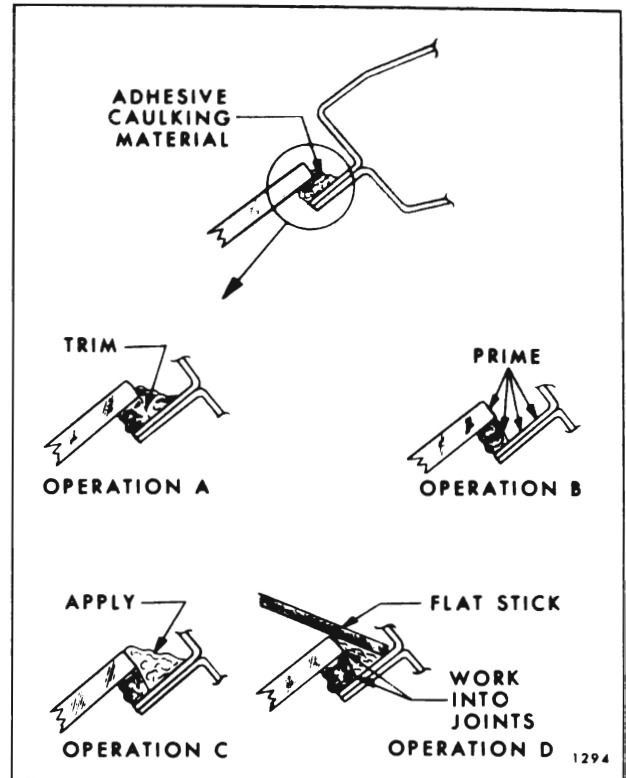

Fig. 4-4—Adhesive Glass Waterleak Correction
4. Using a sharp knife, trim off uneven edge of adhesive caulking material (see Operation "A" Fig. 4-4) at leak point and 3 to 4 inches on both sides of leak point or beyond limits of leak area.
5. Using a small brush, apply adhesive caulking material primer over trimmed edge of adhesive caulking material and over adjacent painted surface (see Operation "B" Fig. 4-4).
6. Apply adhesive caulking material, as shown in Operation "C" (Fig. 4-4), at leak point and 3 to 4 inches on both sides of leak point or beyond limits of leak area.
7. Immediately after performing step 6, use flat stick or other suitable flat-bladed tool to work adhesive caulking material well into leak point and into joint of original material and body to effect a watertight seal along entire length of material application (See Operation "D" Fig. 4-4).